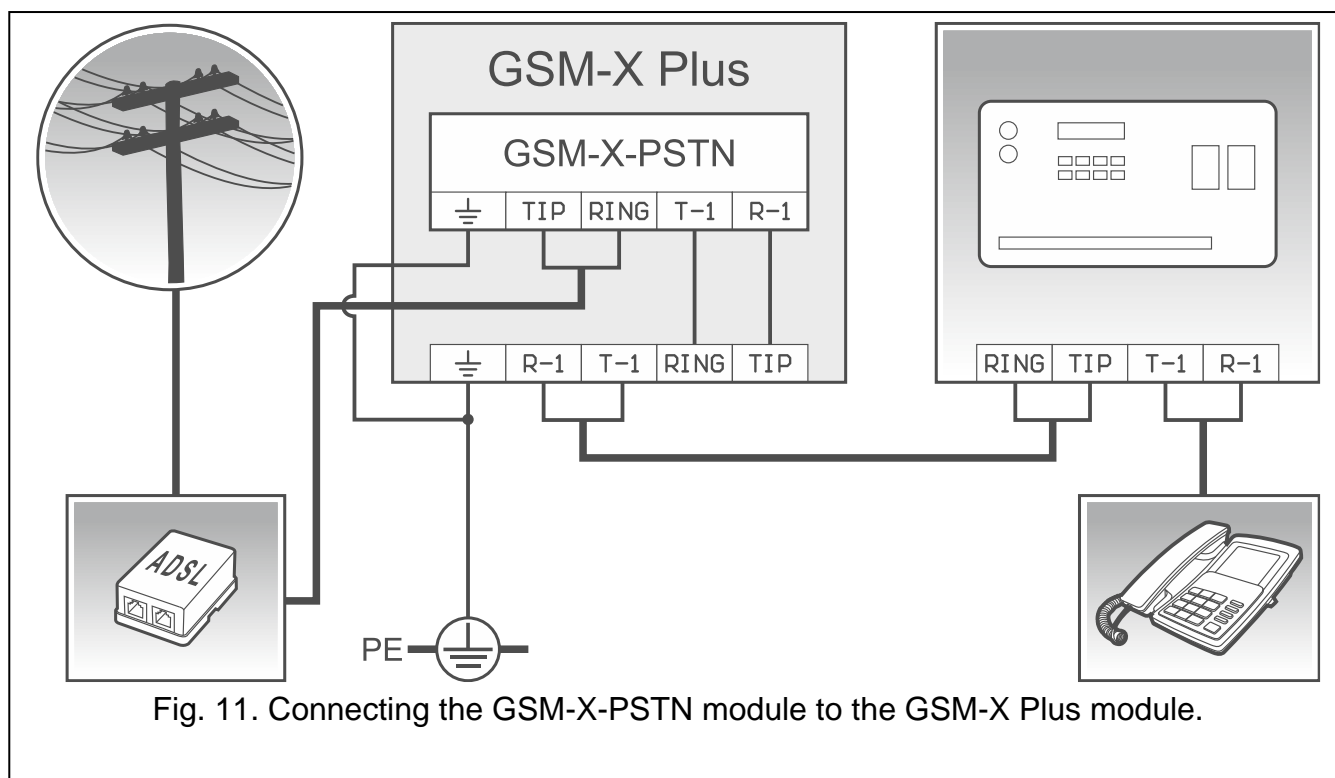

Fig. 11. Connecting the GSM-X-PSTN module to the GSM-X Plus module.
4. Connect terminals T-1 and R-1 of the module to terminals TIP and RING of the GSM-X Plus module (Fig. 11).
5. Connect the incoming telephone line to terminals TIP and RING. If the ADSL service is used on the premises, the module should be connected after the ADSL filter (Fig. 11).
6. Connect terminals T-1 and R-1 of the GSM-X Plus module to terminals TIP and RING of the control panel (Fig. 11). Any telephone located on the premises can be connected to terminals T-1 and R-1 of the control panel.
7. Connect terminals \perp of the GSM-X Plus and GSM-X-PSTN modules to the protective earth conductor (PE) of the 230 VAC mains (Fig. 11). To make the connection, use a wire with $\geq 0.75 \text{ mm}^2$ cross-section. Never connect the \perp terminal to the neutral conductor (N).